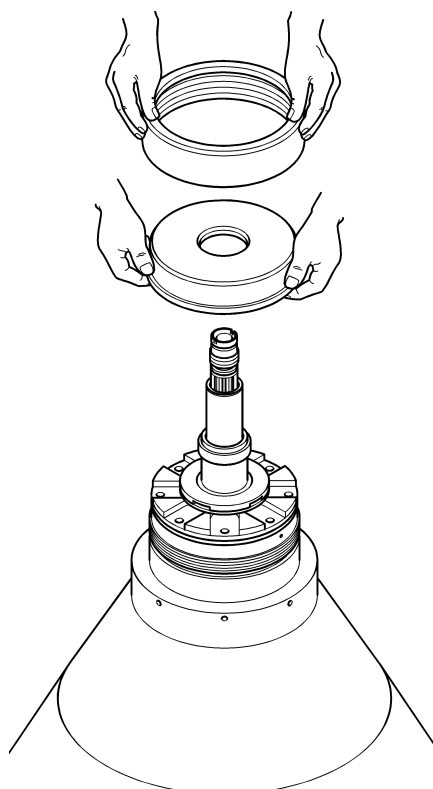

Figure 6.26
- 23) Place the **finned cover** (fig. 6.26), and take care that the “0” marks of the two pieces are aligned.